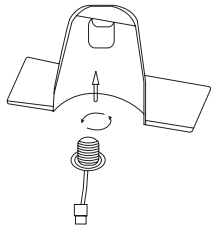

Figure 2.1
5. Screw medium base adapter into existing medium base socket in CAN (Fig 2.1).